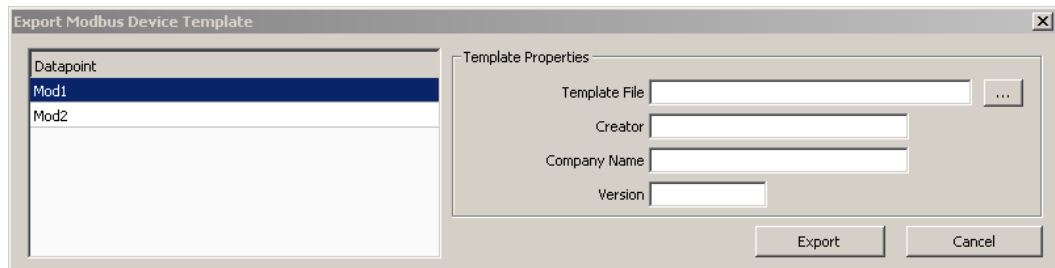

Figure 107 Export Modbus Device Template dialog.
3. Press the **Export Device Templ.** button. This opens the **Export Modbus Device Template** dialog shown in Figure 107. The list on the left side of the dialog shows the names of the data points which are exported to the template.
2. This opens the **Export Modbus Device Template** dialog as shown in Figure 107. Proceed as described above.